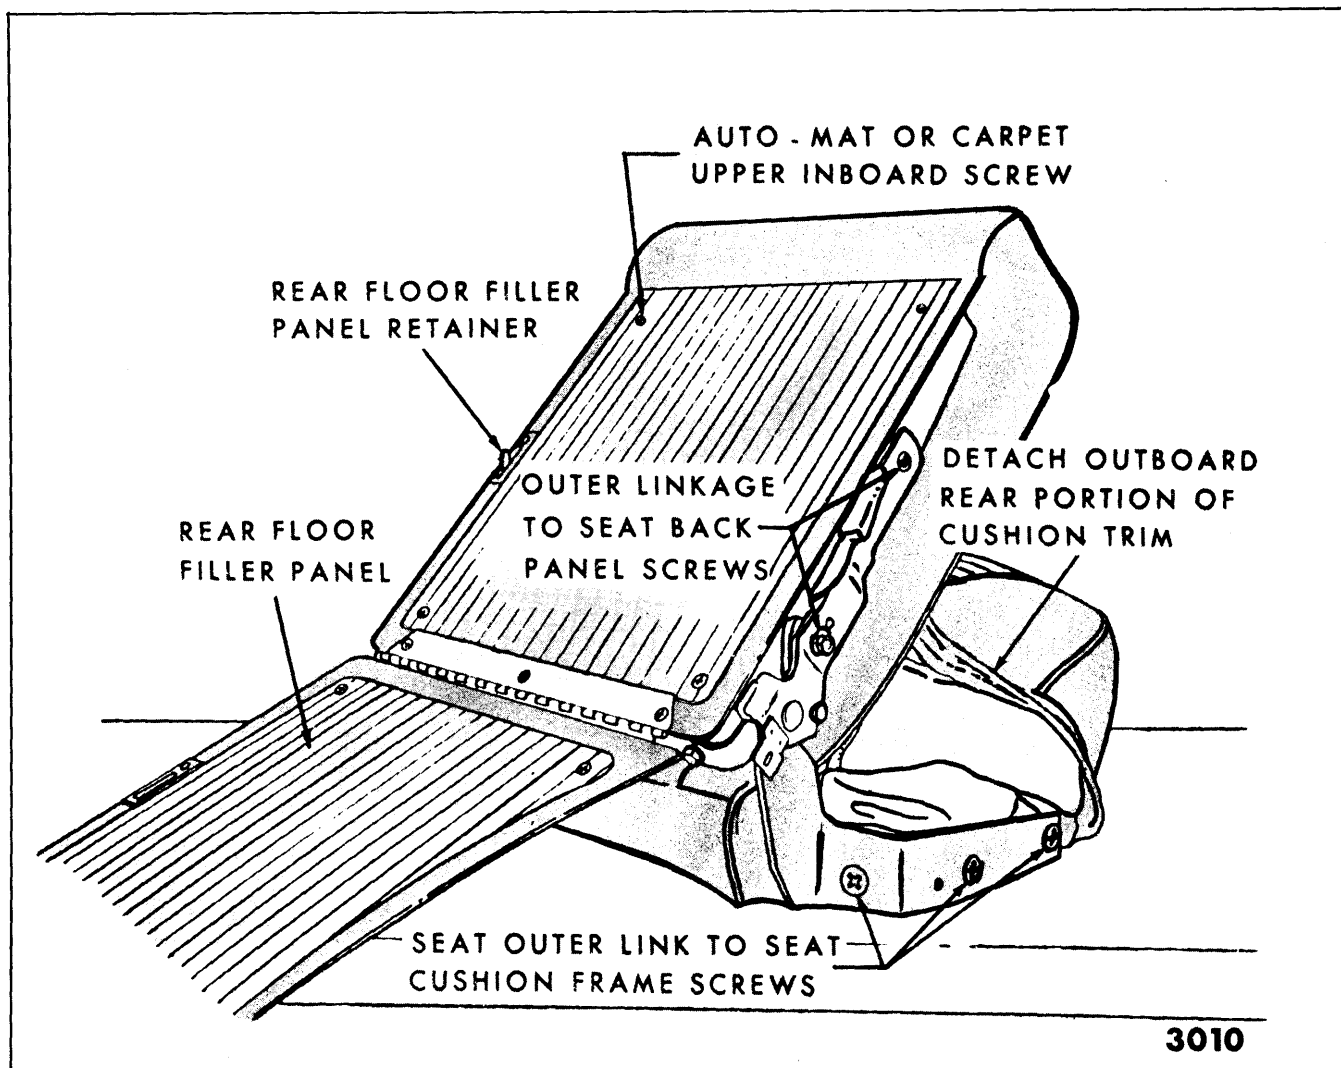

Fig. 15-87—Folding Second Seat Cushion Assembly (Right or Left Side) - Vista Cruiser and Sport Wagon Styles
portion of trim sufficiently to remove three screws securing seat outer link to cushion frame. (Fig. 15-87).
**NOTE:** If seat back trim does not readily disengage from seat back panel, fold rear floor filler panel down and remove upper inboard screw securing automat or carpet (Fig. 15-87). Then remove seat back trim assembly.
3. Remove hog rings and detach rear portion of trim sufficiently to remove three screws securing outer linkage to seat cushion frame. (See Fig. 15-87).
4. Remove outer linkage-to-seat back panel attaching screws (See Fig. 15-87); then, remove linkage and seat back catch from seat.
2. Remove outer linkage-to-seat back panel attaching screws (See Fig. 15-87).
3. Install lock handle attaching screw; then, install outer linkage to seat back panel attaching screws (Fig. 15-87).